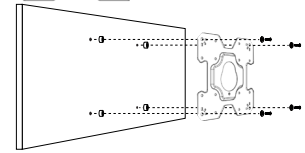

Fig 4
- Attach the Adapter Plate to the display using M4, M5, M6, or M8 screws. For displays with a hole pattern in a pocket or inputs behind Adapter Plate, spacers go between Adapter Plate and display (Fig 4).